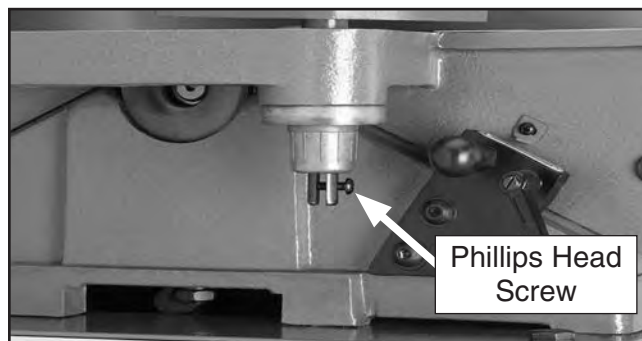

Figure 30. Phillips head screw installed on cutterhead guard.
33. Thread the Phillips head screw through the forked end of the cutterhead guard shaft, as shown in **Figure 30**.